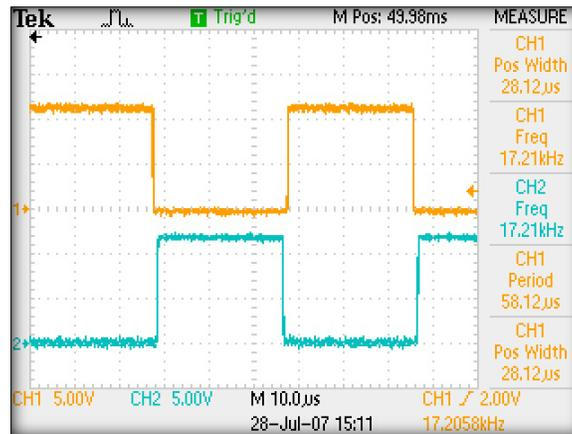

Figure 99: Filament Drive Signal
- b. Turn the hand switch to the **ON** position. Verify that the duty cycle is between 42% and 48%. See Figure 99. (*Note: This parameter is NOT adjustable.*)